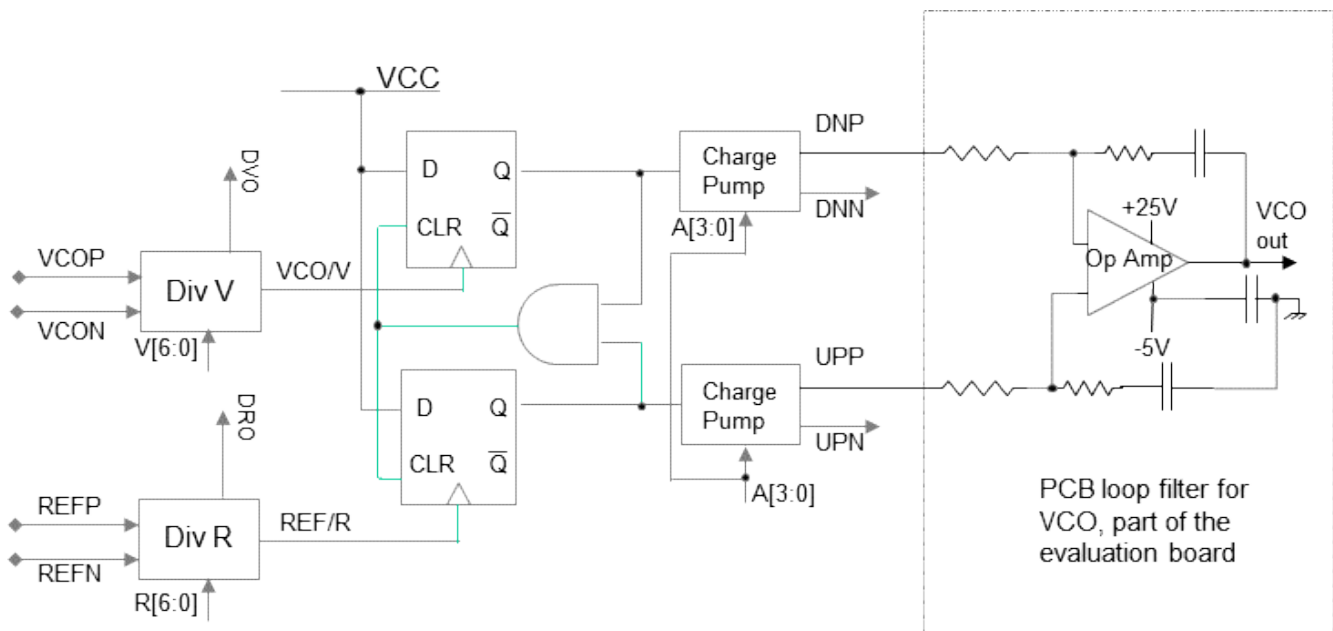

Figure 4. Block diagram for PFD1KE evaluation PC board including loop filter and VCO op-amp
2. The evaluation board has an OP AMP to drive a Varactor VCO oscillator with a 0V to 20V tuning voltage (see Figure 4). Make sure that the proper NO-LOAD resistors are installed to enable the OP AMP circuitry (refer to the schematic in Figure 5) and make sure that a -5VVEE and +25VVCC supply are connected. The -5V and +25V supplies are not needed if the OP AMP integrator circuitry is not needed.
3. Figure 4 shows a block diagram of the PFD1K phase frequency detector and the VCO error voltage integrator circuit (if loaded) that is part of the evaluation board.